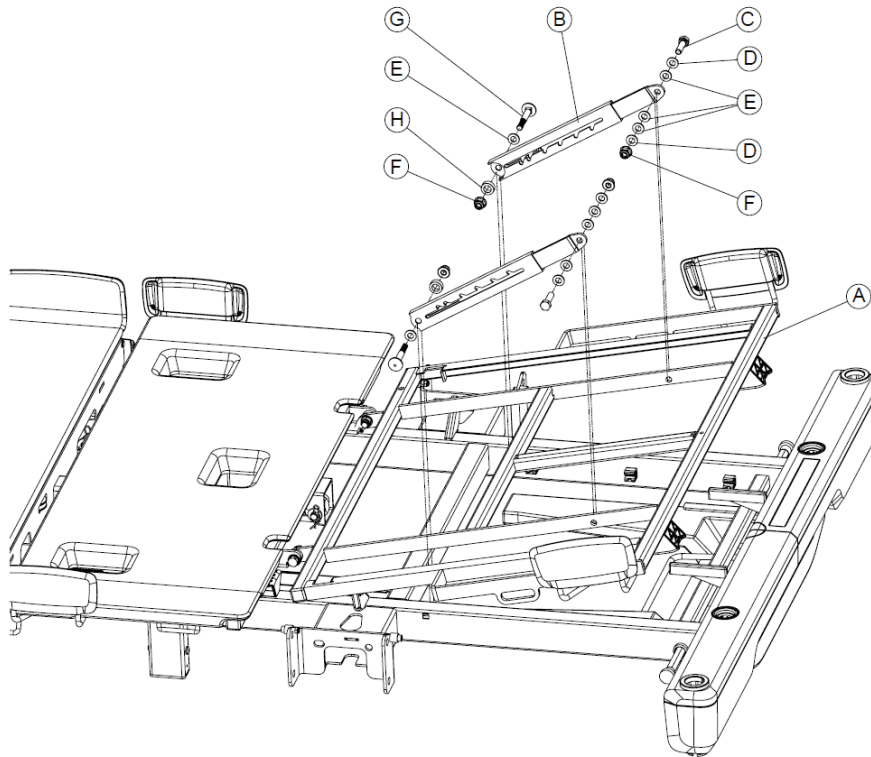

Figure 21 – Lower leg section locking mechanism
4. Raise and lock the lower leg section (A) (Figure 21).